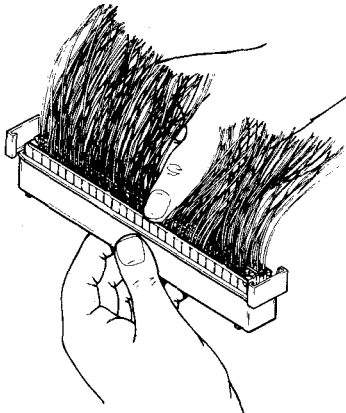

Fig. 42—Insert module into box.
1. Insert module into sealant box and uniformly press into sealant as far as possible. See Figure 42.